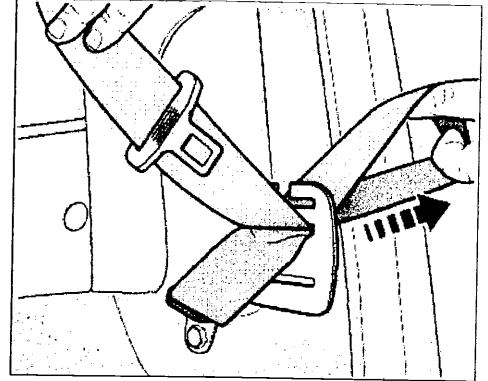
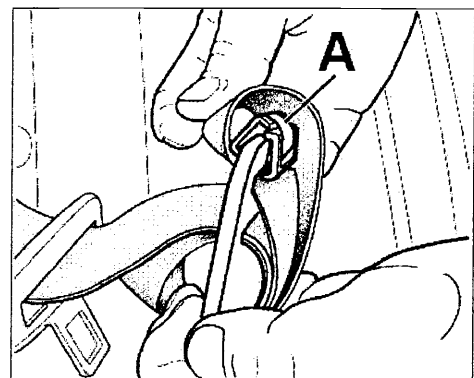

Figure 7
Figure 12
Work Procedure: (cont'd) **12.2** Pull belt loop through towards the rear (Figure 7, Arrow).
- 12.7** Position the catch (Figure 12, Item A) at the upper opening on the belt strap holder as shown in Figure 7 and close it by pressing it together.